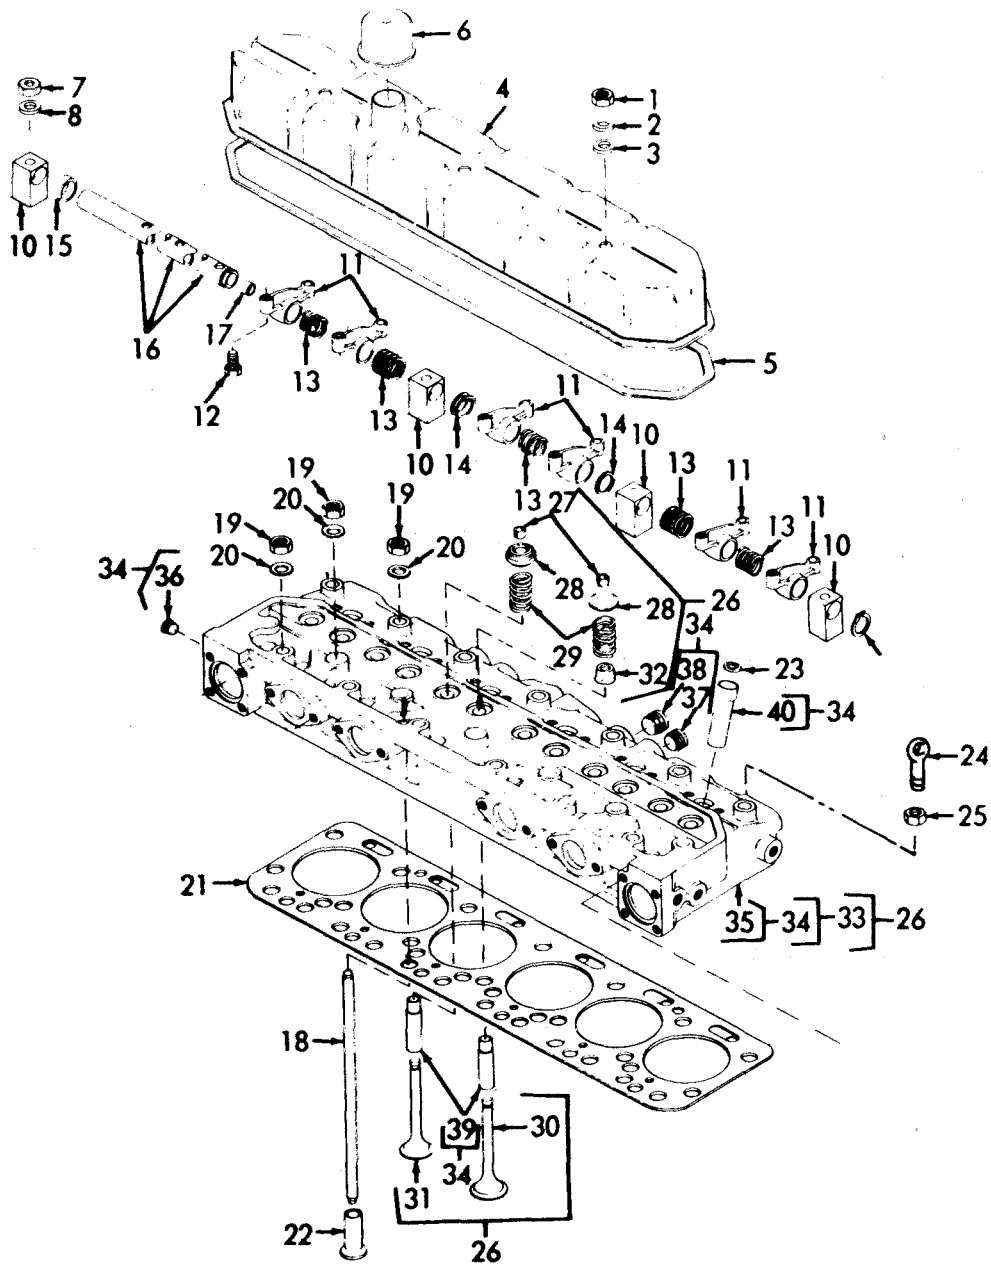

Figure 12-4. Cylinder Head and Valve Mechanism.
- (1) Remove the air cleaner assembly (para. 11-2), and coolant control thermostat (para. 7-4).
- (2) Remove manifolds (paras. 11-3 and 11-4) and injector nozzles (para. 8-7).
- (3) Remove nuts (25, figure 12-4) and lifting eyes (24),
- (4) Remove nuts (7) and washers (8) to remove rocker arm assembly and push rods (18).
- (5) Remove nuts (19) and washers (20).
## LEGEND FOR FIGURE 12-4: